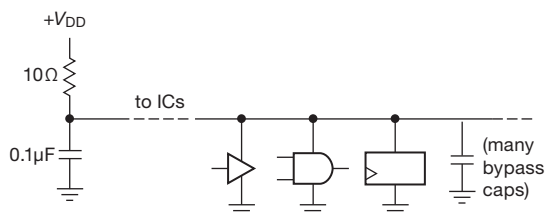

Figure 10.93. A “current spy” makes it easy to locate circuit subsections wherein lurks a current-hogging IC.
- *Put current-sensing resistors in the V_{DD} lead.* In certain failure modes, particularly those caused by static damage, a CMOS chip may draw excessive quiescent current; a $10\ \Omega$ resistor in series with V_{DD} on each board (Figure 10.93) makes it easy to see if that is happening (and you can use the stuck-node tracer in §4.8.2 to track down the offending component).